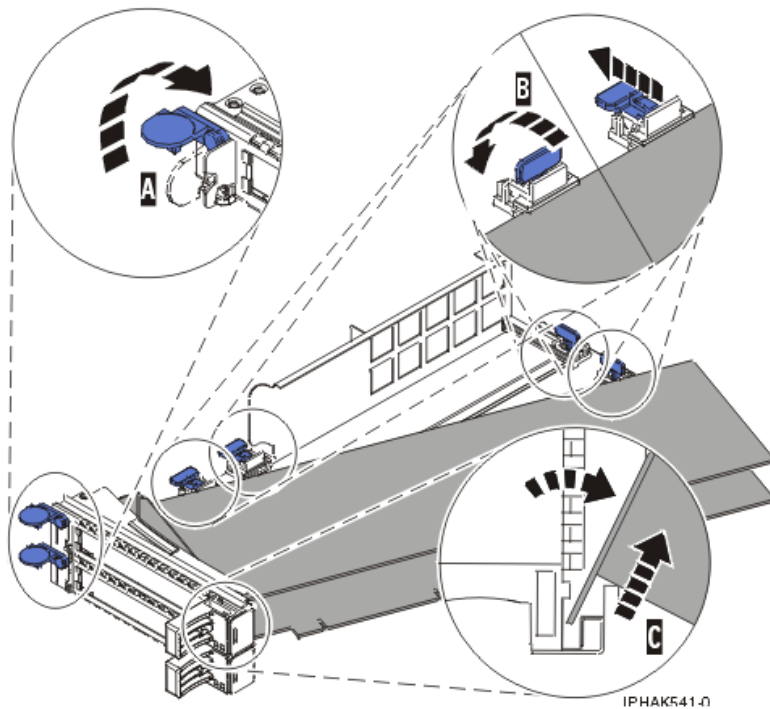
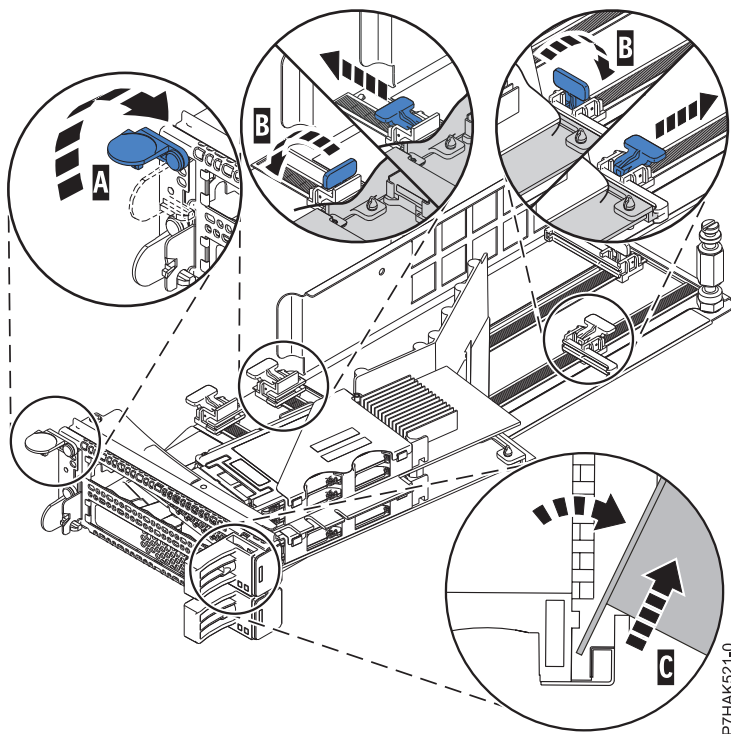

Figure 150. Adapter removed from the PCI adapter cassette
Figure 151. PCIe RAID and SSD SAS adapter removed from the PCI adapter cassette
- d. Unscrew pivot pin (C) and put it in a safe place
- a. Unlock the adapter retainers (B) by rotating the retainer clips (A) into the horizontal position. See Figure 150 on page 173. If you are removing a PCIe RAID and SSD SAS adapter, see Figure 151 on page 173.